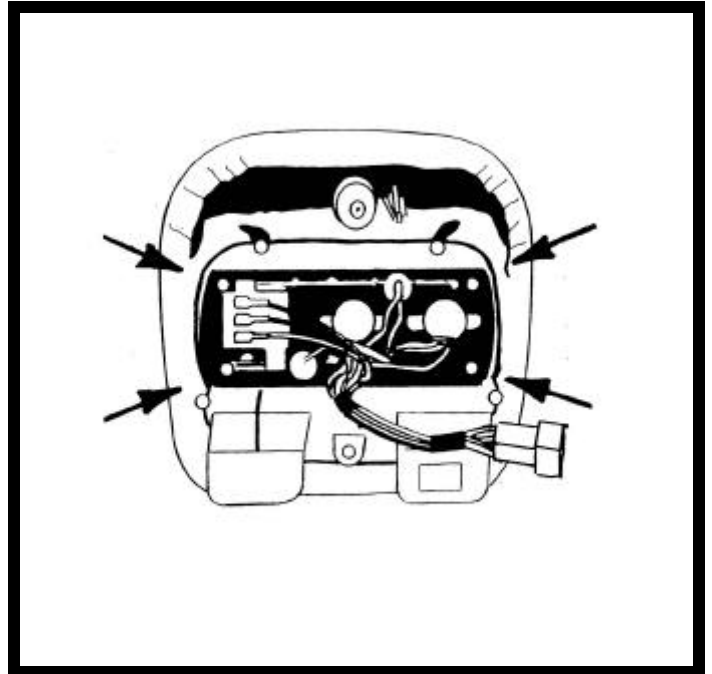

FIGURE 2
2. Remove A/C control head from cloth covered trim ring on O.E.M. console by depressing (4) four tabs on back of control assembly. See Figure 2. Discard cloth covered trim ring.